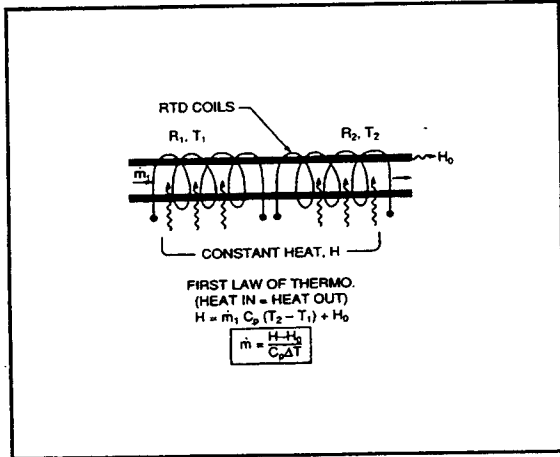

Figure 1-2 Measuring Sensor Flow
Figures 1-2 and 1-3 show the mass flow through the sensor tube as inversely proportional to the temperature difference of the coils. The coils are legs of a bridge circuit with an output voltage in direct proportion to the difference in the coils' resistance; the result is the temperature difference (ΔT). Two other parameters, heat input (H) and coefficient of specific heat (C_p) are both constant. Although the output is not intrinsically linear with mass flow, as is often claimed, it is nearly linear over the normal operating range. The FMA-100/200 provides precision circuitry with a five breakpoint linearizer to assure a 0.5% full scale linearity specification.